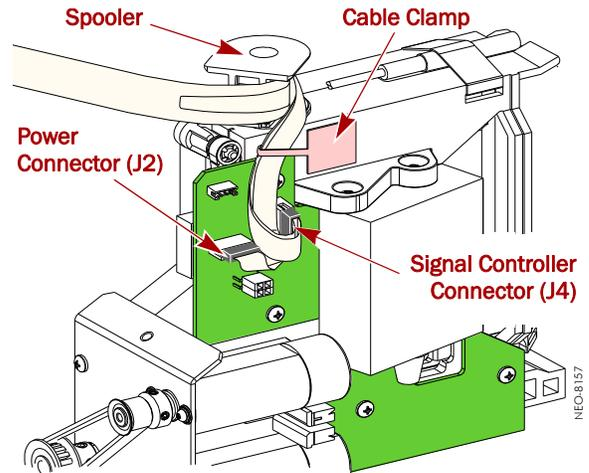

Figure 7. Shuttle PWA and Cables (Front View)
1. On the shuttle, locate the Shuttle PWA (Figure 7) and release the shuttle cables: